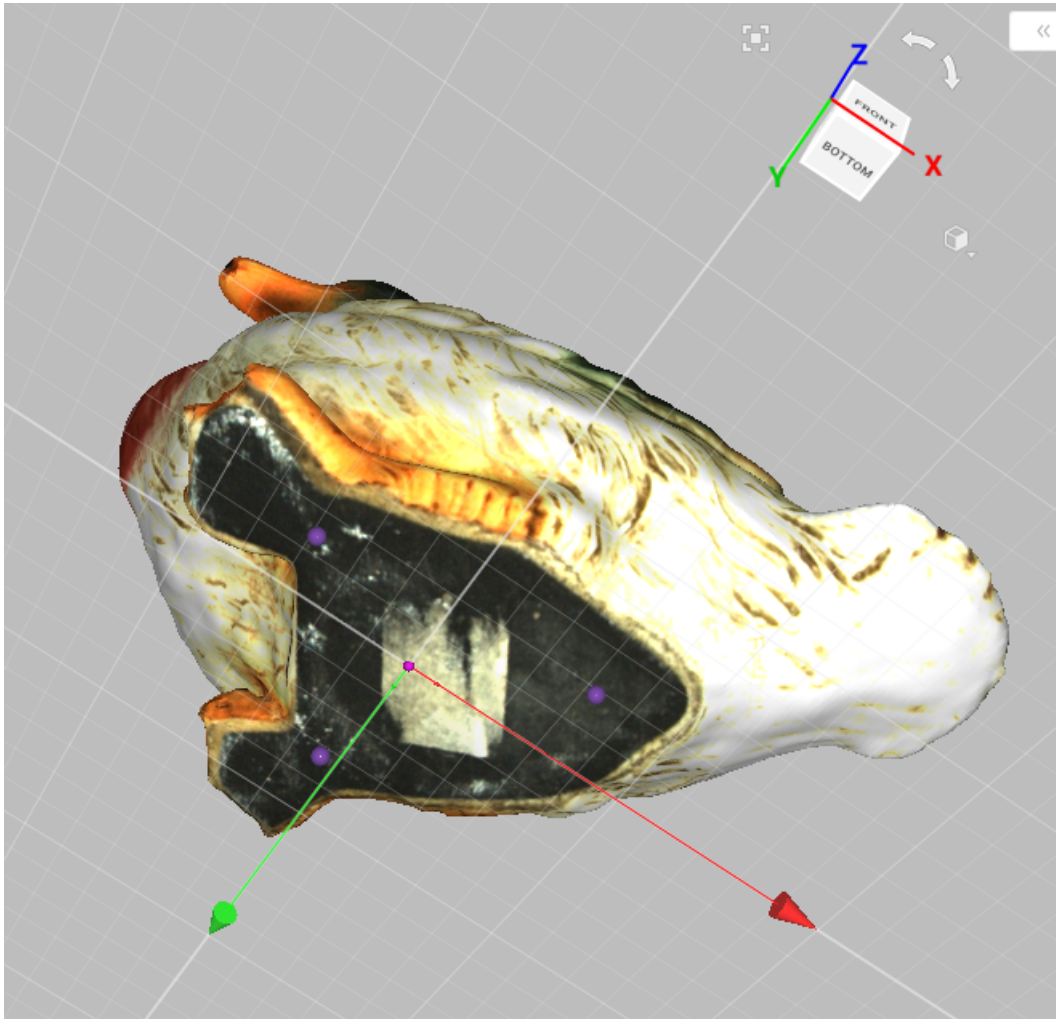

Figure 184: Positioning the model in the global coordinate system.
5. Use **LMB** to specify at least three points on the surface; the plane will automatically pass through their center of mass (see Figure 184). The following conditions will then apply: